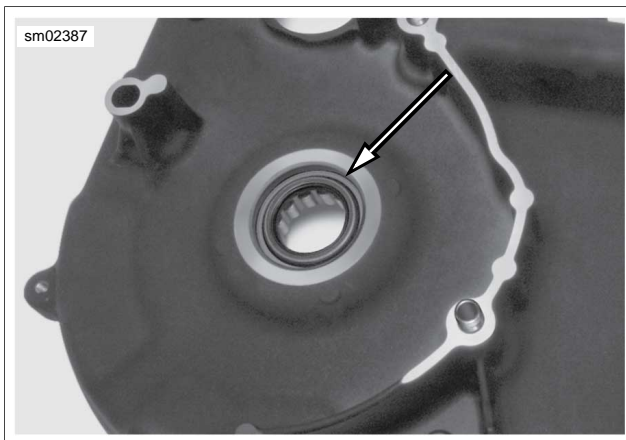

Figure 6-21. Oil Seal
- b. See Figure 6-21. With the lip garter spring side (stamped "oil side") facing toward the bearing, press squarely on the outer edge of a **new** oil seal until outer edge of seal is flush with machined surface of inner primary housing.